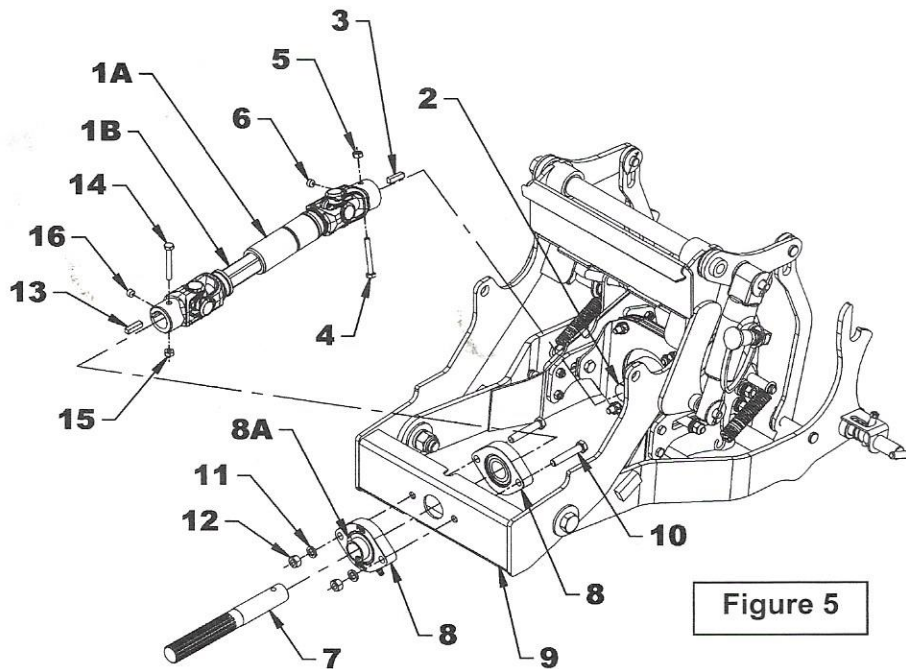

Figure 5
1. **Figure 5:** Attach the female part of the driveline (item 1A) to the male automatic clutch shaft (item 2) with the 1/4" x 1/4" x 1" lg key (item 3), 1/4"NC x 2" lg bolt (item 4) and 1/4"NC stover nut (item 5). Apply Loctite type adhesive on the 3/8"NC x 1/4" lg. setscrew (item 6) and screw firmly in the female driveline yoke (item 1A).
2. **Figure 5:** Place a bearing (item 8) on each side of the frame's rear plate (item 9) and insert the output shaft (item 7) in both bearings (item 8) and in the male driveline yoke (item 1B).
3. **Figure 5:** Secure the male driveline (item 1B) to the output shaft (item 7) with a 1/4" x 1/4" x 1" lg key (item 13), 1/4"NC x 2" lg bolt (item 14) and 1/4"NC stover nut (item 15). Apply Loctite type adhesive on the 3/8"NC x 1/4" lg. setscrew (item 16) and screw firmly in the male driveline yoke (item 1B).
5. **Figure 5:** Secure the bearings with two 3/8"NC x 2" lg bolts (item 10), 3/8" lockwashers (item 11) and 3/8"NC hex nuts (item 12).
6. **Figure 5:** Apply Loctite type adhesive on the four 1/4"NF setscrews (item 8A) and screw firmly in the bearings (item 8).